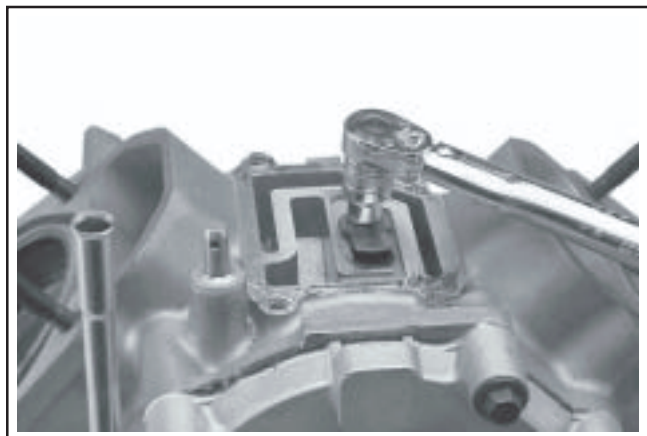

Figure 11-23. Installing Breather Reed.
3. Install the breather reed and breather reed retainer onto the crankcase and secure with the hex. flange screw. Hold the assembly in line when tightening. Torque the screw to **3.9 N·m (35 in. lb.)**. See Figure 11-23.